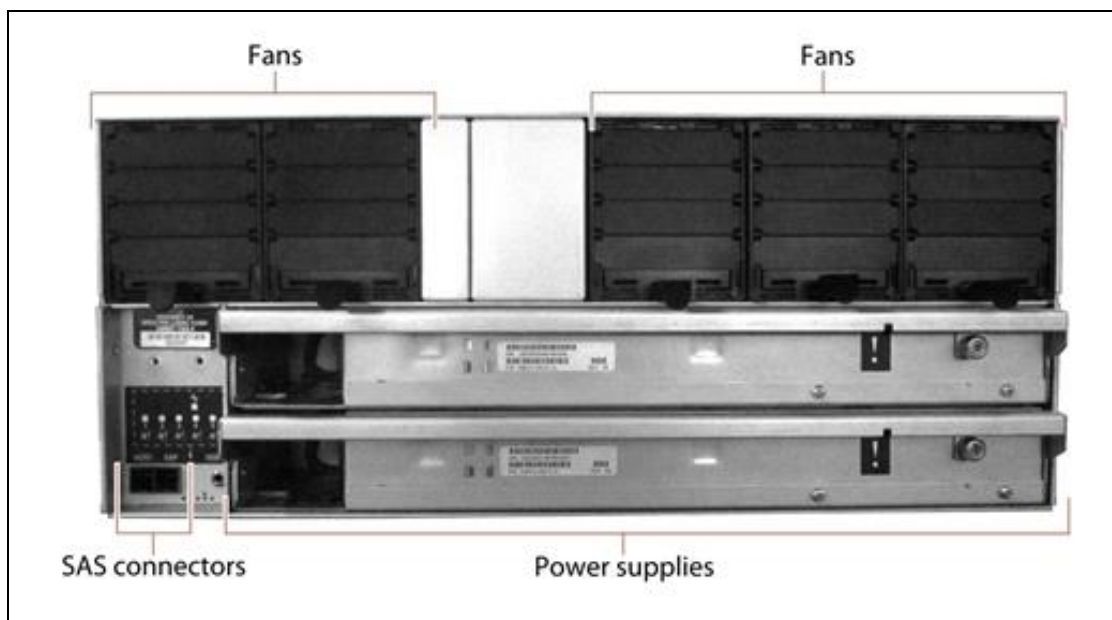

Figure 25 The rear view of the 96-bay expansion node.
Figure 25 shows the major components on the rear of the 96-bay expansion node.
- To power on a 77-bay, 96-bay, or 107-bay expansion node, connect power cables to the power supplies on the rear of the expansion node chassis (see Figure 16 on page 47 and Figure 25 on page 58), then plug the power cables into power outlets near the chassis. The expansion node immediately powers on. Wait approximately four minutes while the expansion node initializes before powering on the BlackPearl master node.